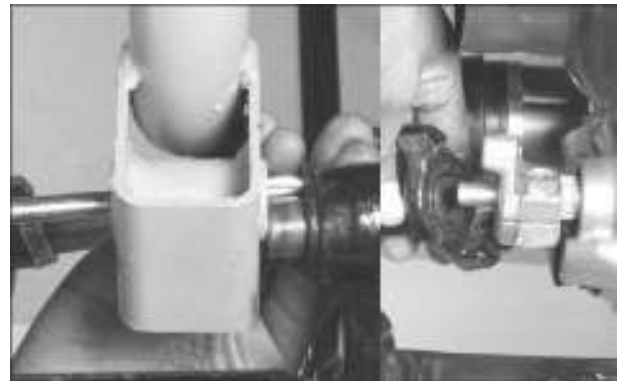

Fig. 3.10
- Press the support shaft hand starter and separate it from the shaft complete rear hand starter. (Fig. 3.10)
- Separate the shaft complete rear hand starter along with Isolator hand starter from the dog driven. (Fig. 3.10)